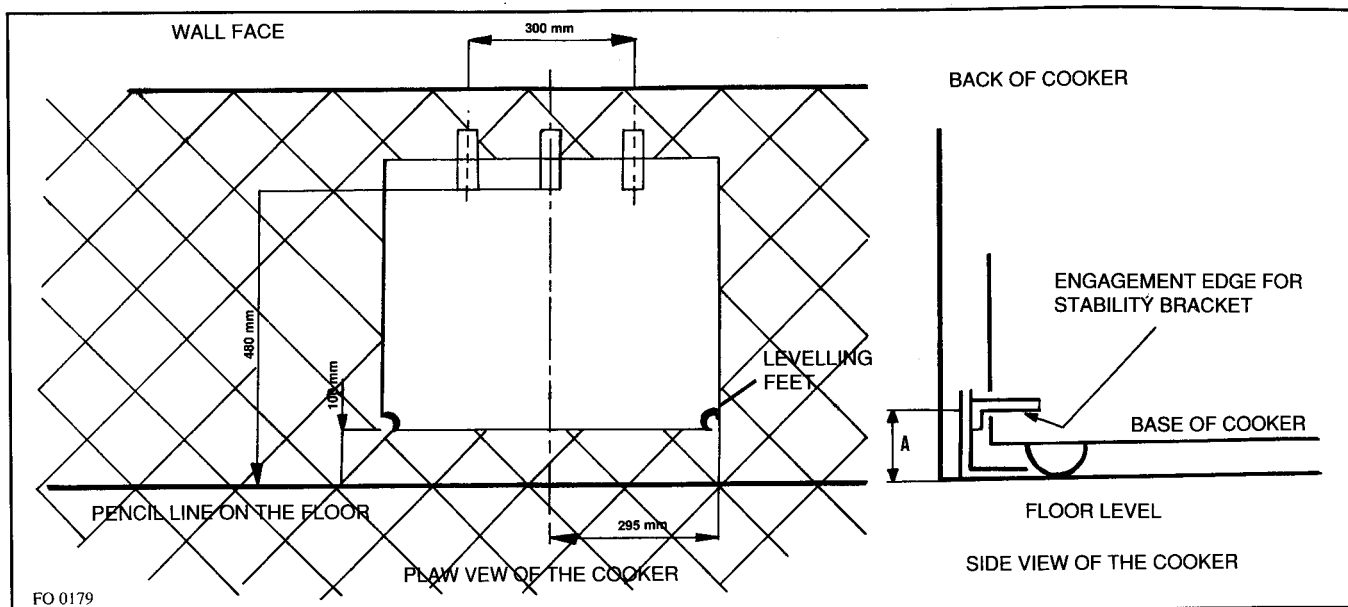

Fig. 2
2. Fitting the Stability Bracket (Fig. 2)